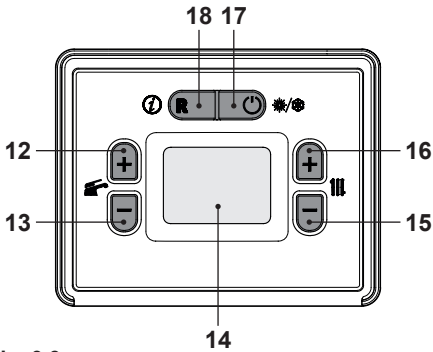

Fig. 9.3
- By using buttons 15 or 16 (Fig. 9.3) it is possible to modify the value of parameter A01 (Fig. 9.5).
- Press 12 or 13 (Fig. 9.3) to confirm the value entered and return to the list of parameters (Fig. 9.4).
- Press the 17 button (Fig. 9.3) to exit "programming mode".